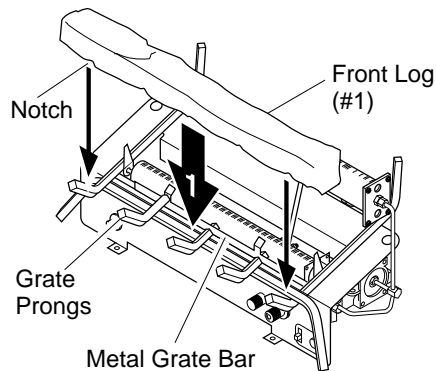

Figure 16 - Installing Front Log (#1)
1. Place front log (#1) on top of the grate. Make sure the notches in the bottom of the log fits over the grate prongs (see Figure 16). Push back of log flush with metal grate bar.